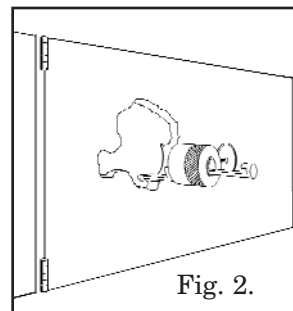

Fig. 2.
2. Place the correct diameter step into the corresponding bore. Have the hook end set against the inside back wall of the door. See Fig. 2.